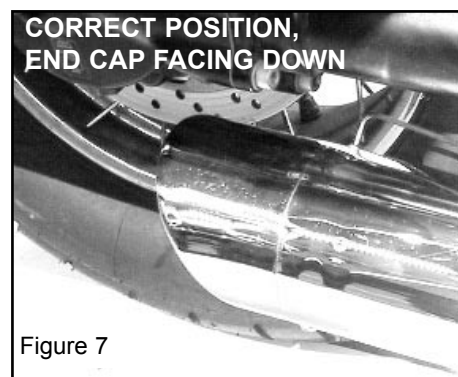

Figure 7
1. Install the slash-cut end caps onto the outlet ends of the Z-Technik Muffler Assembly. **The End Caps must face out or down**, facing up or in may promote damage to the motorcycle. Secure the end caps with the M5 x 8 screws (hex key wrench, 3mm). Figure 7.